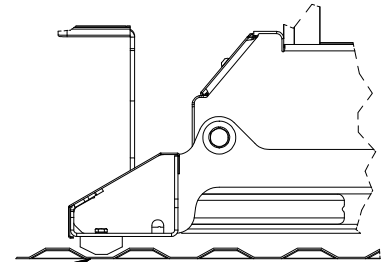

Figure B3: Back view of the driver side leg of the slider base.
5. **Position pads.** Square the slider base legs with the ribs of the truck. Position the polyurethane pads so that they are both in a bottom rib along their entire length, see Figure B3. Tighten the four 1/4" bolts holding the pads to the base.